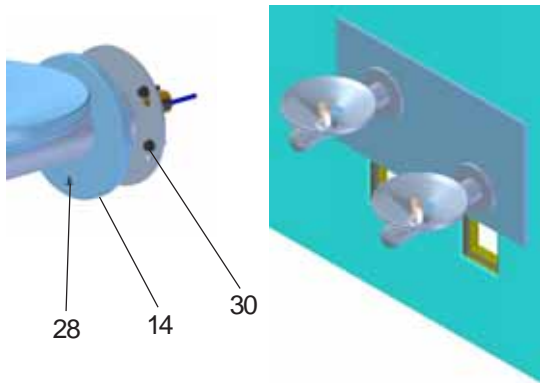

Figure 6 - Fountain Installation
4. **Install fountain.** Remove screw (Item 28) from cover plate and slide cover plate (Item 14) toward basin. Mount the fountain to the back panel and mounting plate with (4) 5/16" x 1" (25mm) long screws (Item 30 - provided). Tighten securely. (See Figure 6)